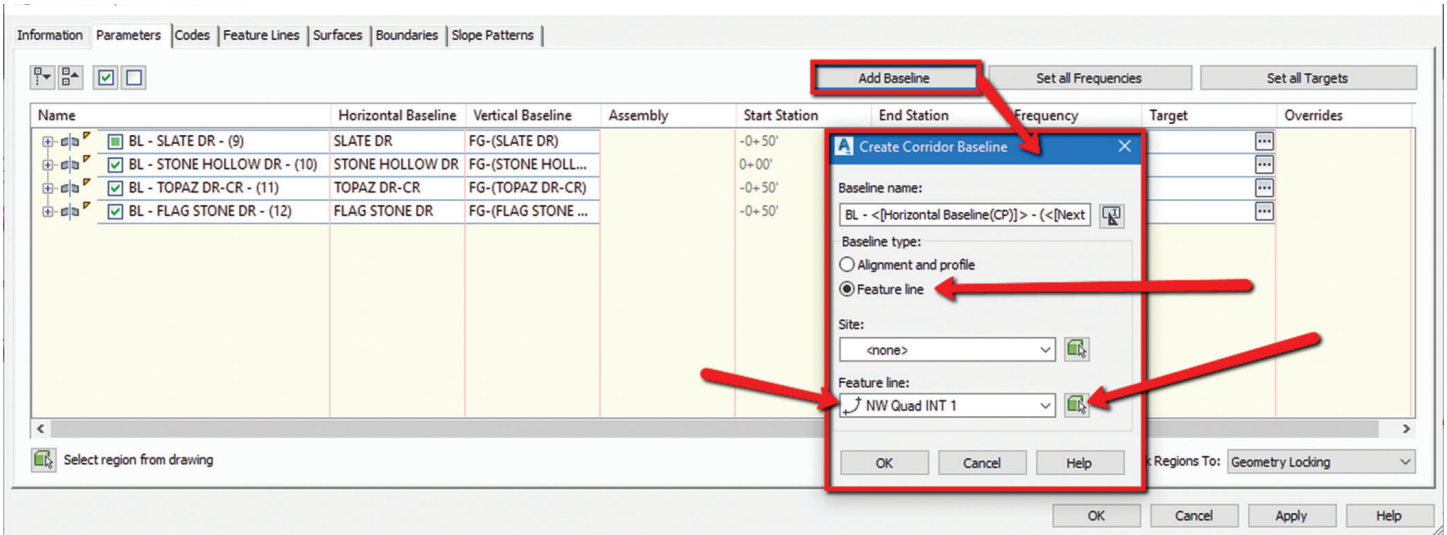

Figure 6
6. From the parameters tab, select ADD BASELINE. The Create Corridor Baseline dialog box will appear. Select FEATURE LINE from the Baseline type (see Figure 6).